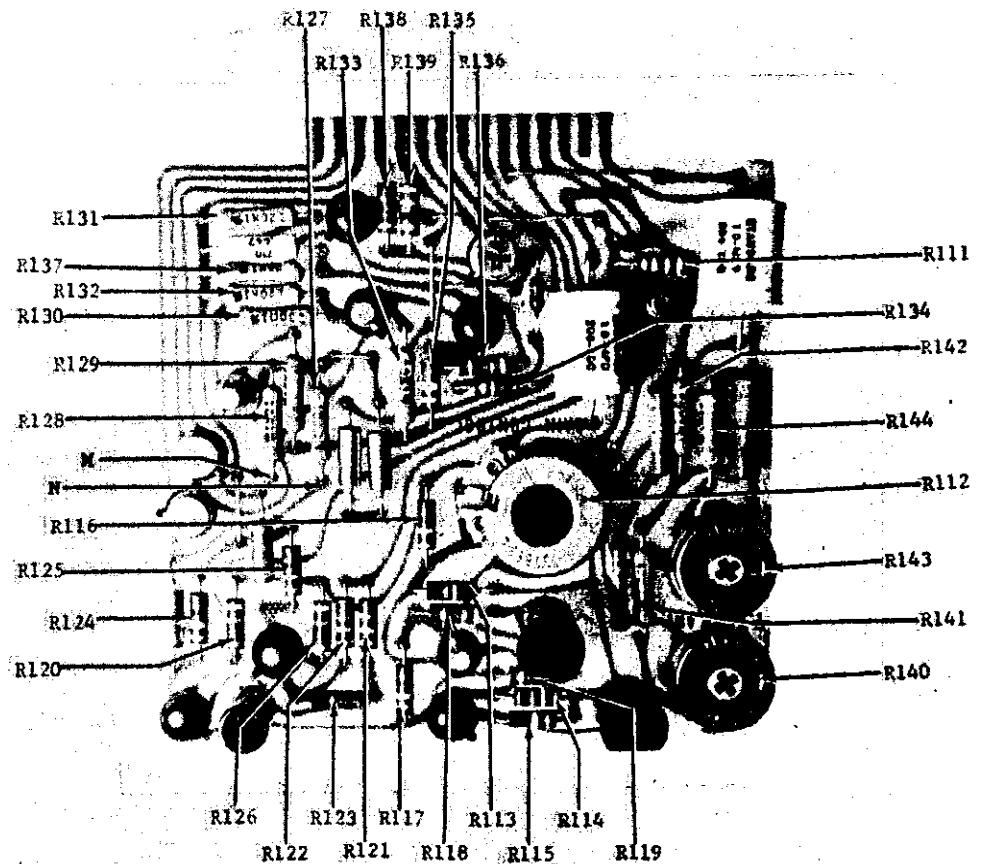

FIGURE 15. Resistor and Test Point Locations on PC-119. Refer to Figure 14 for capacitor, diode and transistor locations.
4. Remove the Model 1488 Shorting Plug and leave the Model 150B input open. Set the FUNCTION Switch to INPUT R 100%. Connect the Type 503 Oscilloscope to the Model 150B 1V OUTPUT. Set the oscilloscope amplifier to dc coupling, 0.2 volt/cm, time base to 1 second/cm. Set the Model 150B to the 3-microvolt range. Set the ZERO SUPPRESS COARSE Control to 1 and adjust the ZERO SUPPRESS FINE Control to obtain a 3-microvolt signal. The response time (from 10% to 90% of final value) should be approximately 6 seconds. Adjust Gain Control potentiometer R112 (Figure 15) for this value.
2. Apply 10 volts peak-to-peak to the input of the 94 cps filter (pin 3 to pin 1 of PC-119, Figure 15) with the Model 200CD Oscillator.
3. Adjust TT ADJ potentiometers R140 and R143 (figure 15) for minimum signal at the output, pin 6 of PC-119. Monitor the output signal with the Model 503 Oscilloscope. The output signal should be about 250:1 less than the input, typically 40 mv or less, and contain very few 94 cps voltages.